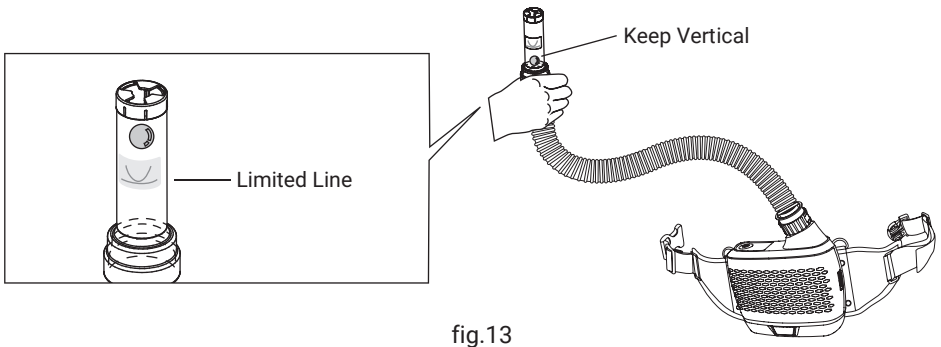

fig.13
- Attach the end of the hose to the bottom of the airflow indicator and start the unit. Keep the airflow indicator upright (see Fig. 13).